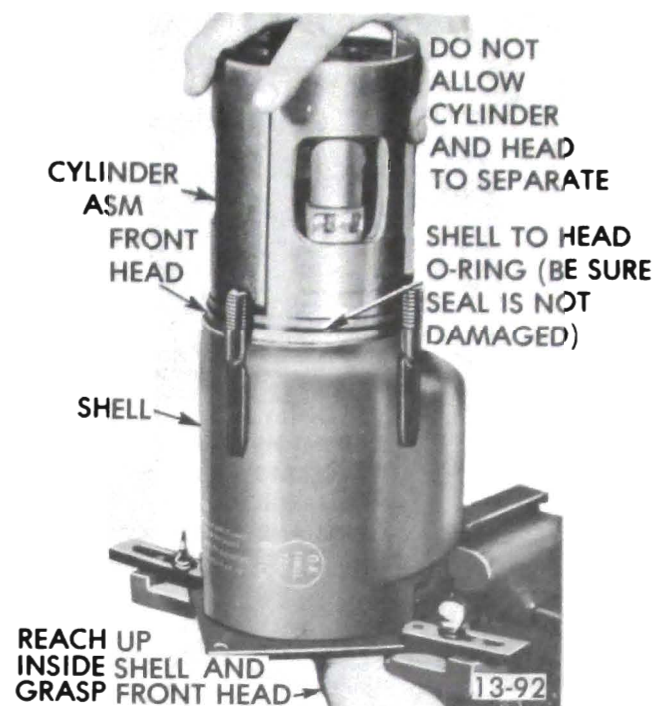

Figure 13-74 Installing Front Head and Cylinder Assembly in Shell
7. Reassemble, as a unit, cylinder assembly and front head into the shell. See Figure 13-74. Extreme care must be used to prevent shell to head "O" ring seal from being damaged.